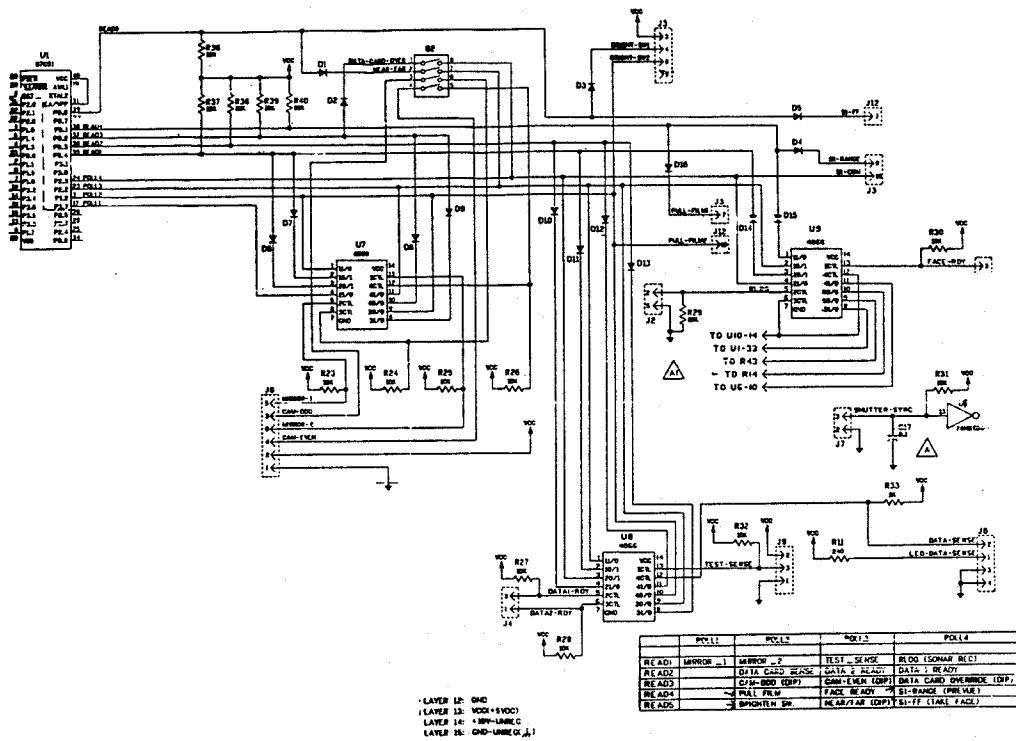

Figure 2-12 Logic Circuit Inputs
*Inputs to the Logic Circuit (Fig. 2-12) include:*